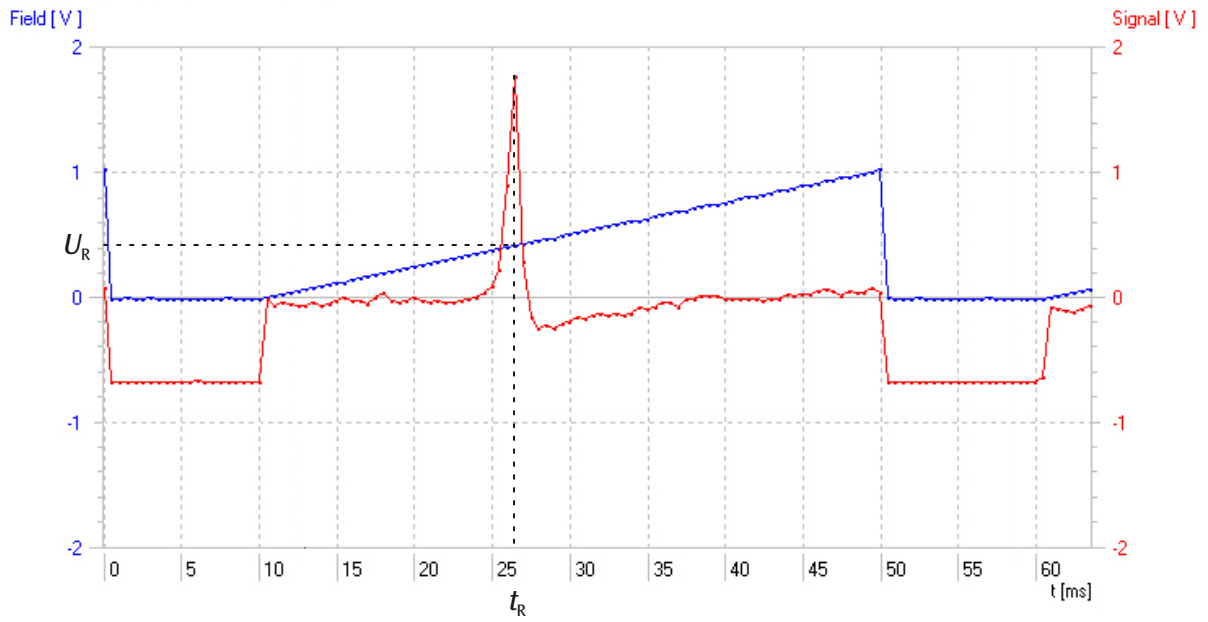

Fig. 6 Signal trace at 40 MHz (red: absorption signal as a function of time, blue: coil voltage as a function of time)
- Note down the resonance voltage of the coil U_R and the corresponding resonant frequency ν_R (see Fig. 6).